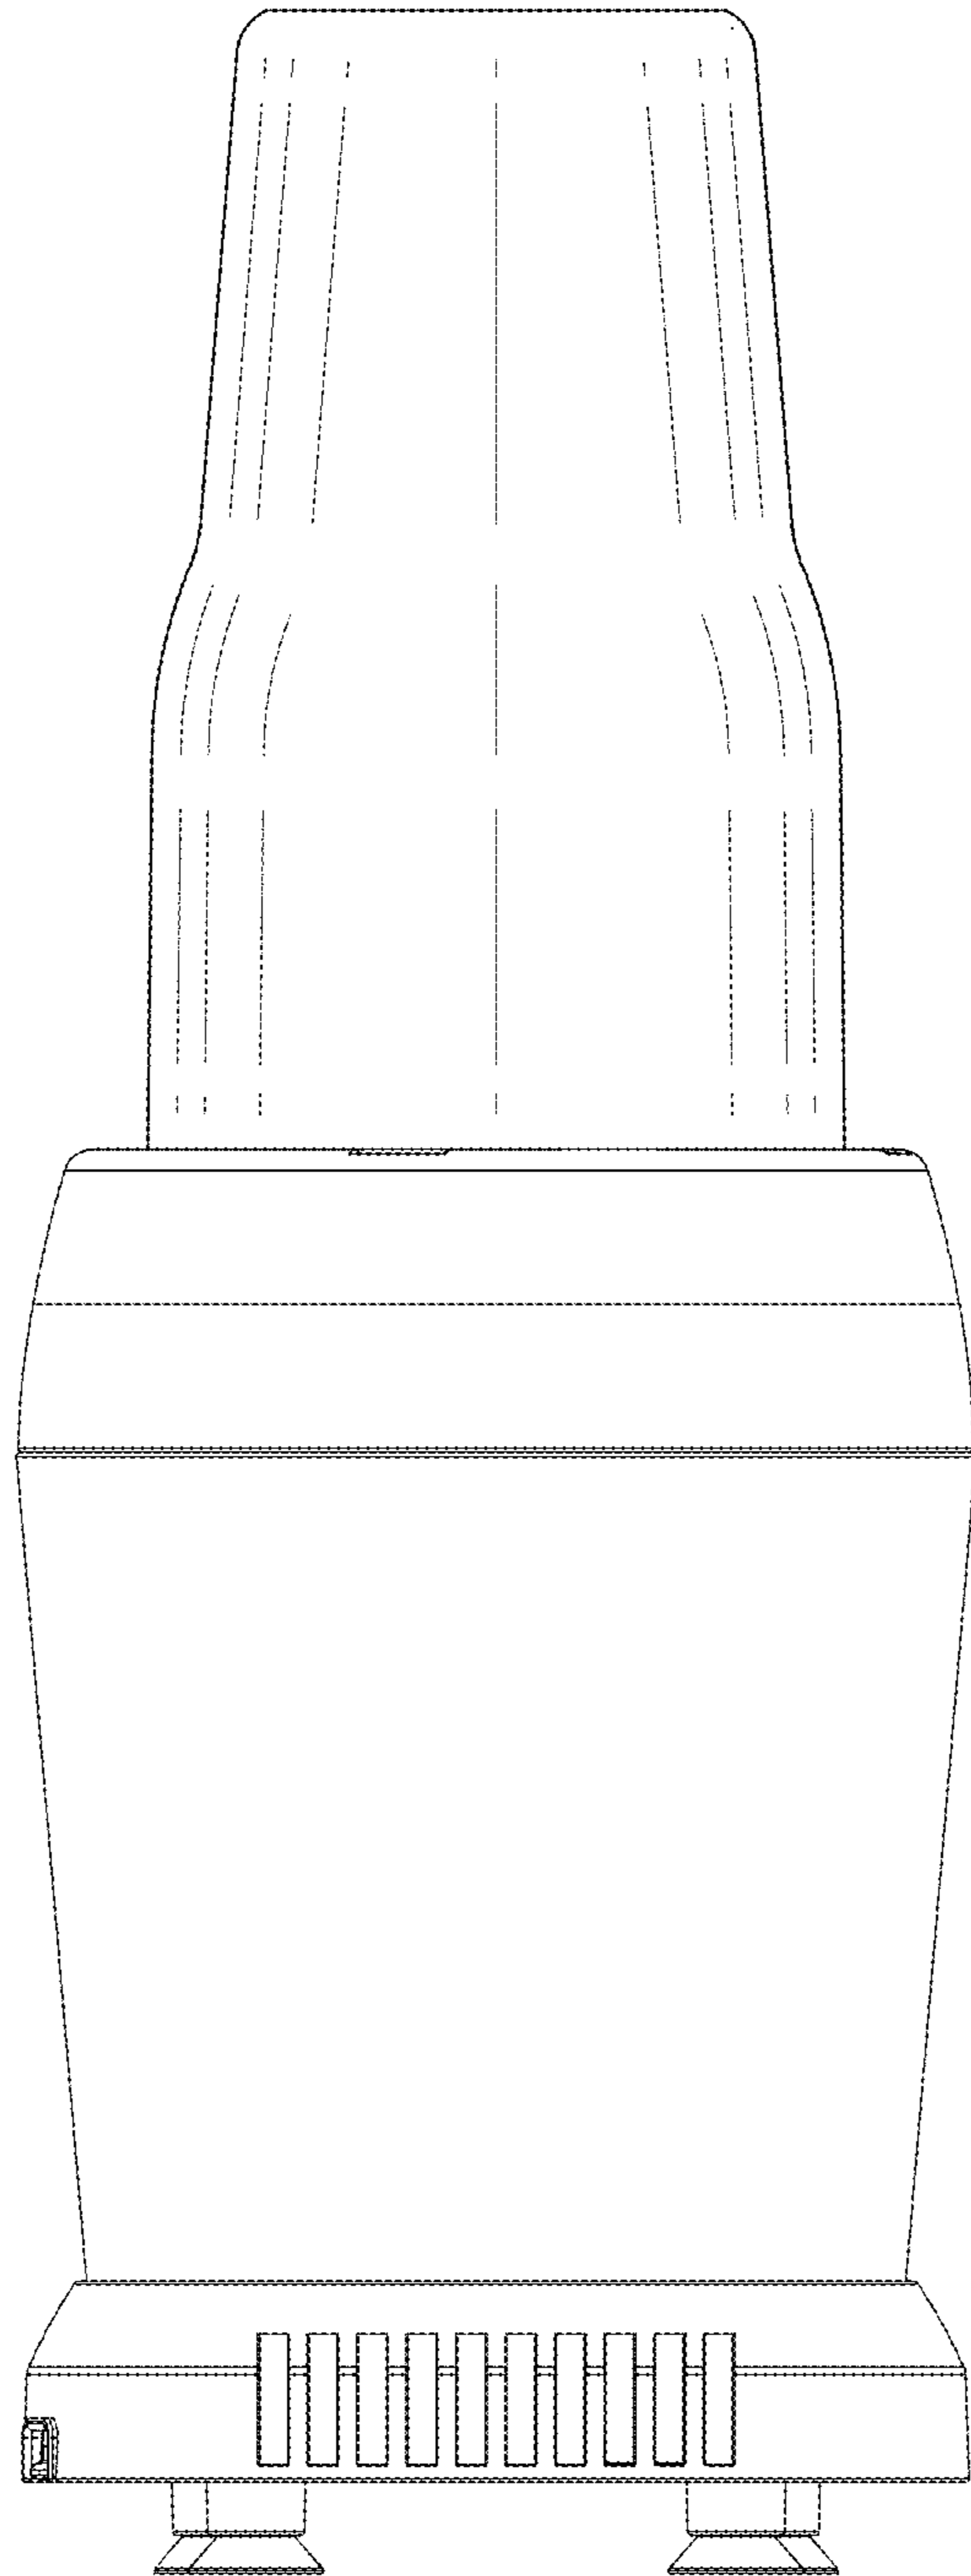

FIG. 2
- FIG. 2 is a rear end view thereof.